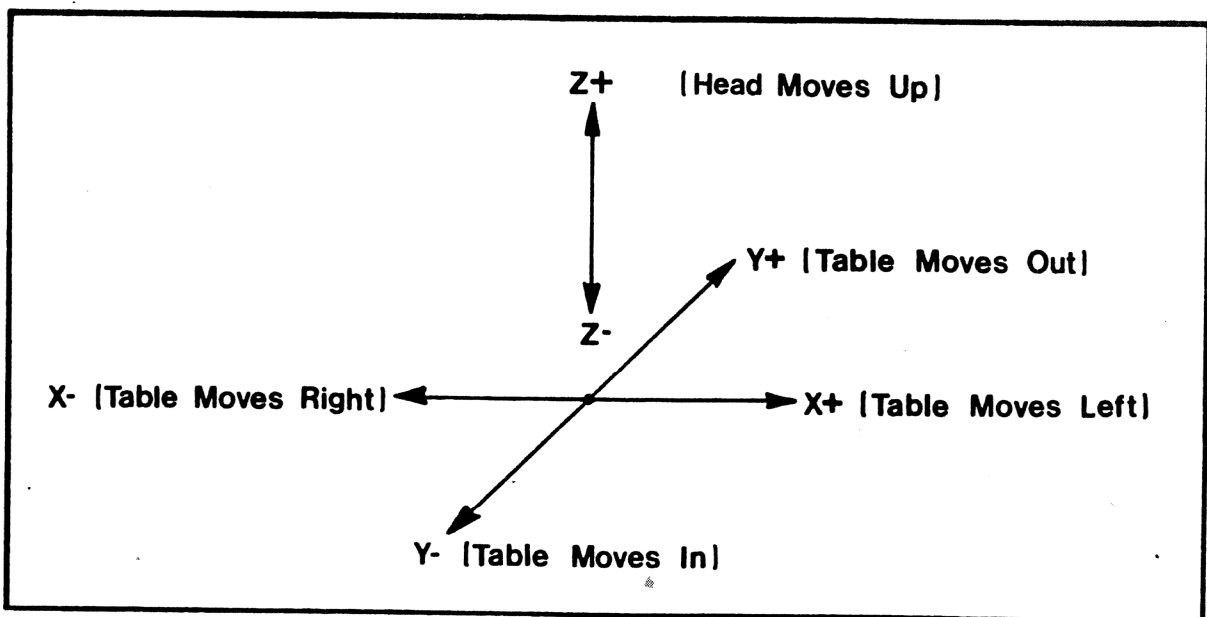

Figure 3-2. Relationship of X, Y, and Z Axes
- X The X and Y coordinates define a position on the table. Figure 3-2 illustrates the positive and negative directions for each of the three axes as viewed by a person facing the mill. Note the opposite relationship of the programmed motion of the tool relative to the table when actually the table moves relative to the stationary spindle. X and Y can be programmed as either *absolute* or *incremental* dimensions. Absolute dimensions are referenced from the part or fixture zero point determined by the table zero and offsets in Data Block 0. Incremental (INC) dimensions are referenced from the current table position. (Arc end points and repeat blocks are exceptions and are explained later.)